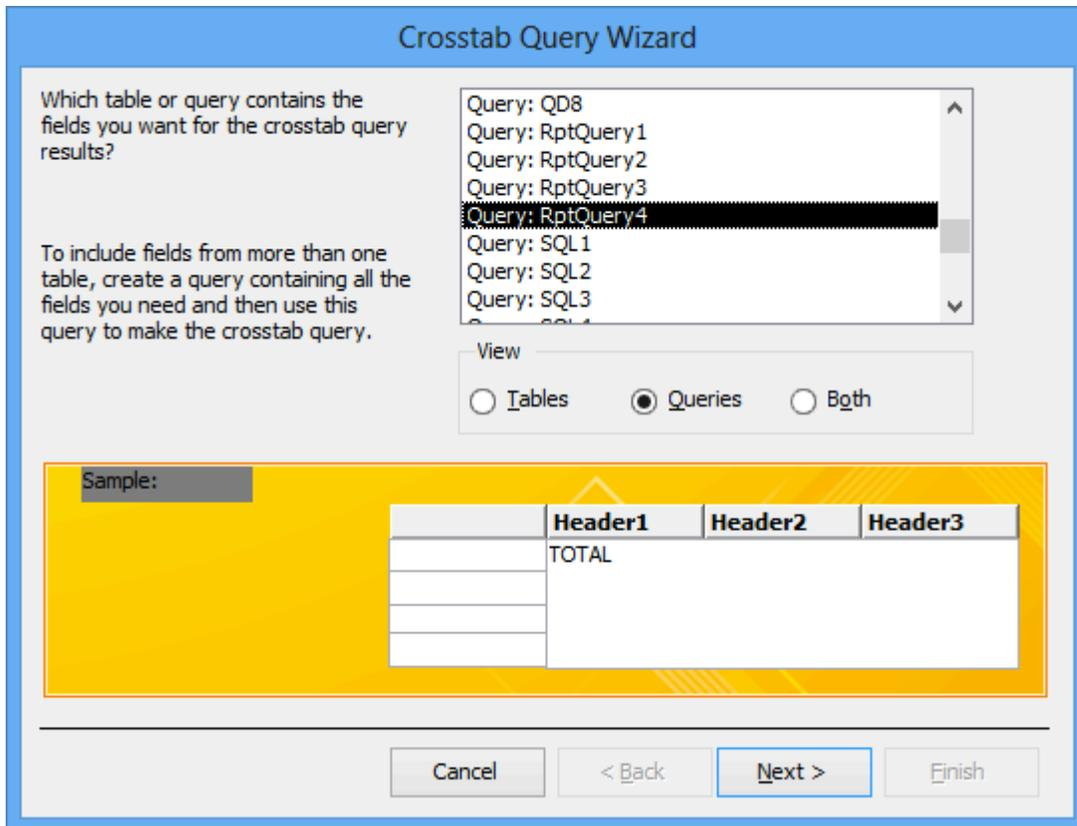

Figure 33: Crosstab Wizard Query List
2. Select Table or Query: In the first wizard window, select the “Queries” option and choose *RptQuery4* from the list (Figure 33). Click the **Next >** button.